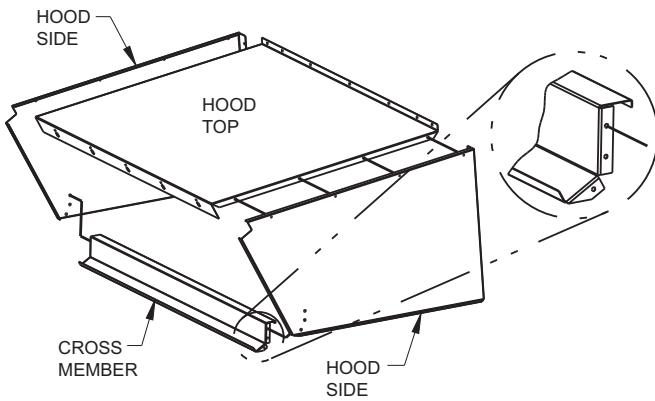

Fig. 21 — Economizer Hood Assembly
3. Assemble hood sides, top, and cross member with gasketed screws provided. See Fig. 21 for hood assembly.